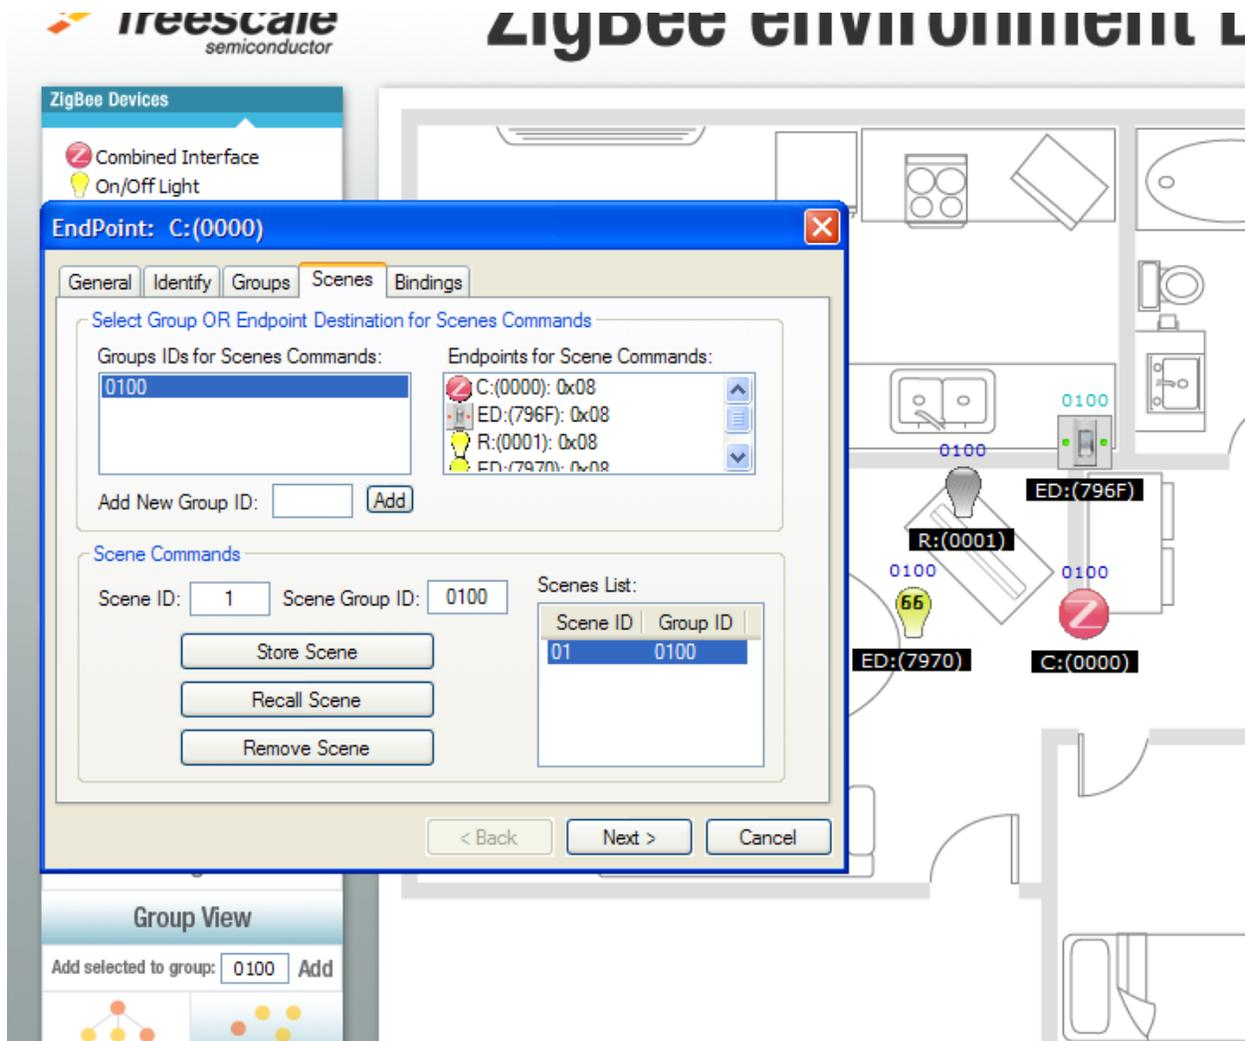

Figure 4-26. Storing a Scene
- Notice how the scene has been added to the Scenes List as shown in Figure 4-26.
11. Notice how both lights have changed to their previously stored states shown in Figure 4-26.